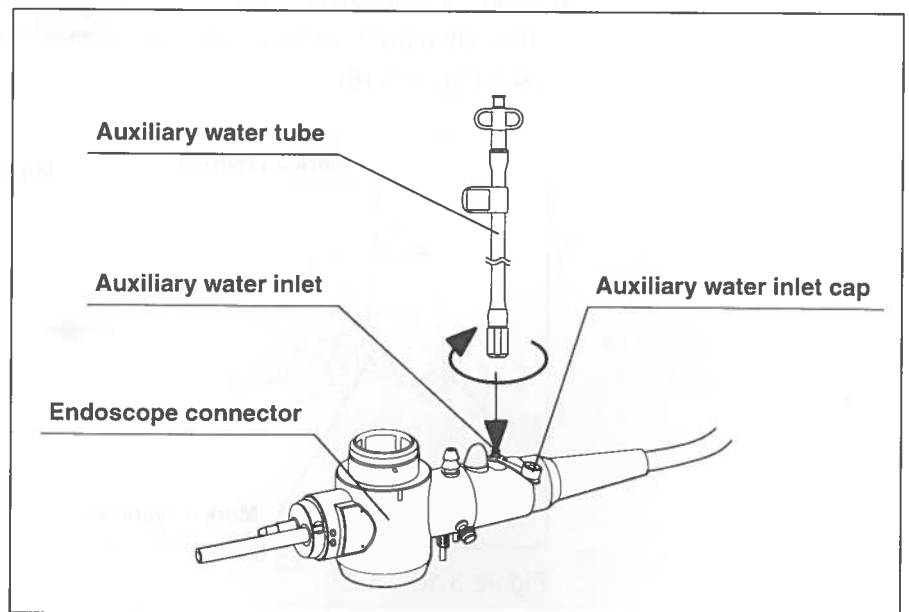

Figure 3.18
8. Open the auxiliary water inlet cap (for GIF-XTQ160, CF models only, see Figure 3.18).
9. Connect the auxiliary water tube to the auxiliary water inlet on the endoscope connector and turn it clockwise until it stops (for GIF XTQ160, CF models only, see Figure 3.18).